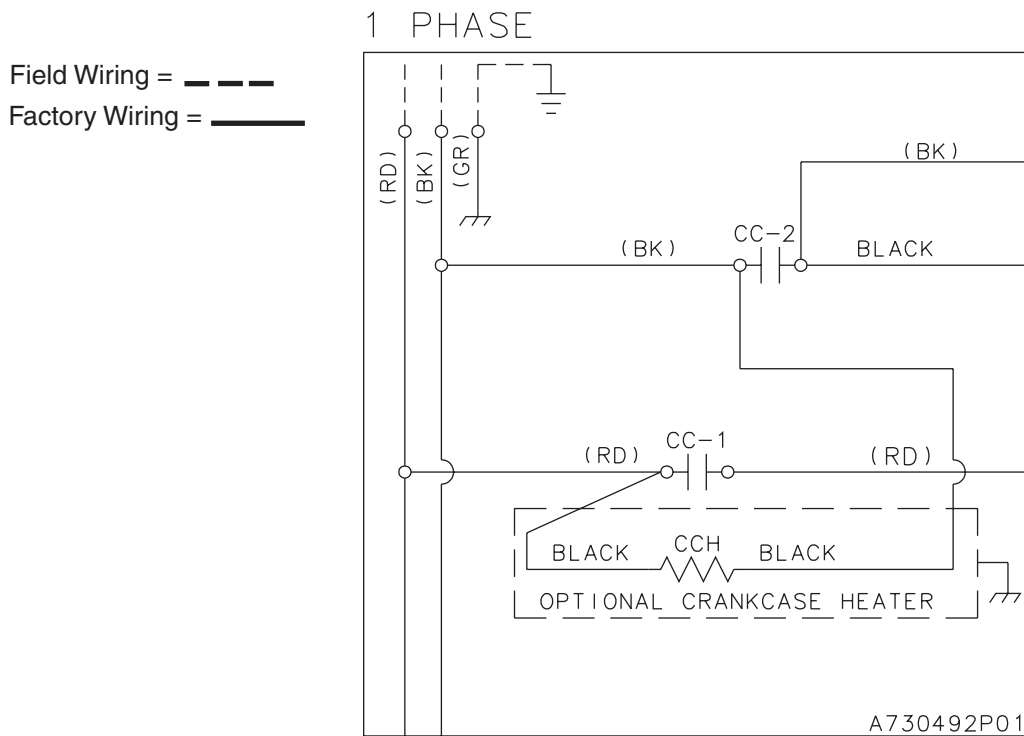
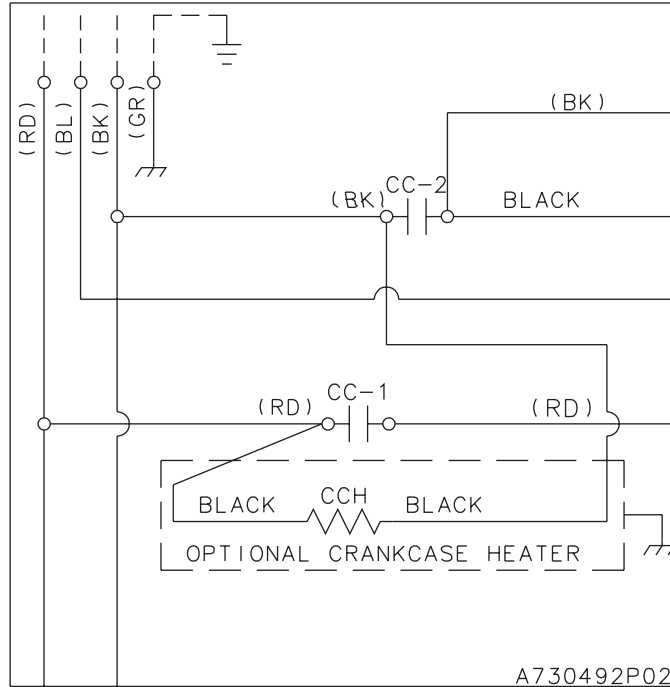

Figure 4. Single Phase Wiring
Figure 5. Three Phase Wiring
8. In the Control Box compartment, connect the leads to the (CC) compressor contactor as shown in the diagram. Refer to Figure 4 if you have a single phase unit. Refer to Figure 5 if you have a three phase unit.
***NOTE:** Connect both leads on the line side of the contactor. (See Figures 4 (page 3) or 5 (page 4))*